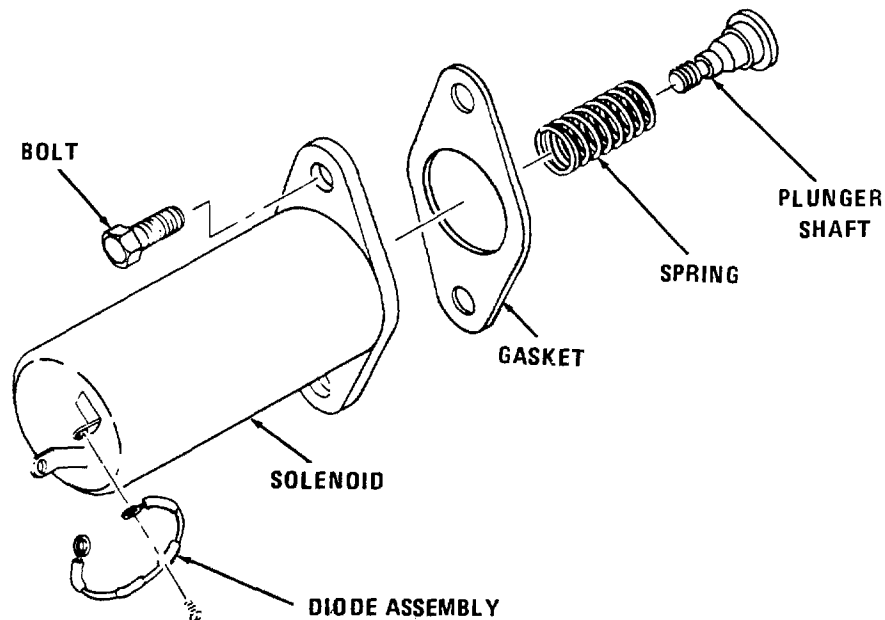

Figure 4-25. Fuel Shutdown Solenoid L1, Exploded View
a. General. Fuel shutdown solenoid L1, which is mounted at the rear of the fuel injection pump (see figures 4-25 and 4-63), when energized, allows fuel to reach the fuel injection pump thus enabling engine operation. Deenergizing L1 cuts off this fuel which shuts down the engine.
c. Removal. To remove fuel shutdown solenoid L1, refer to figures 4-25 and 4-63, and proceed as follows:
(1) Tag and disconnect two wires leading to terminals at rear of solenoid.
(2) Loosen and remove two bolts that secure L1 to side of drive group adapter.
(3) Gently rock L1 until it is free of adapter.
(4) Retain gasket if reusable.